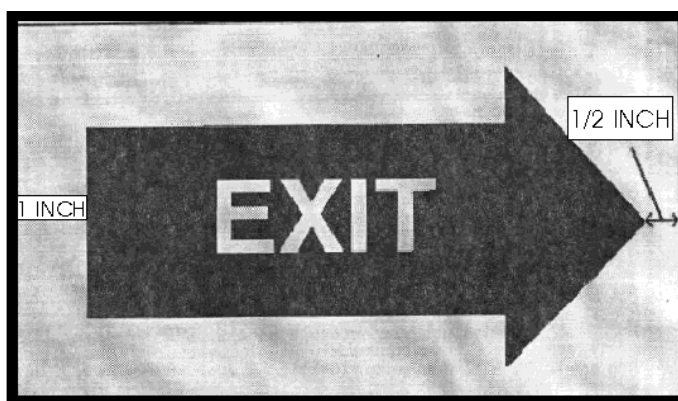

Figure 10-5; Exit Sign
- a. Exit Signs/Arrows. In those compartments with a length or width of 30 feet or greater, **photoluminescent** exit signs shall be placed on bulkheads of passageways every 15 feet along the "primary" egress route only. No "double directional" signs shall be used. The signs shall be located no lower than 12 inches and no higher than 36 inches above the deck. When used in conjunction with Battle Dressing Station routing markers, the signs shall be stacked one above the other with the Exit sign nearest the deck and the BDS sign topmost. Placement of photoluminescent signs shall not violate provisions of 10.B.1.e and 10.B.1.f of this Manual. Photoluminescent signs/materials shall be in accordance with 10.B.1.g of this Manual. See figure 10-5 for exit sign configuration.